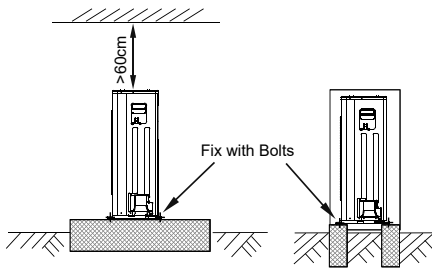

Fig.6-5
- Create a concrete foundation according to the specifications of the outdoor units. (Refer to Fig. 6-5)
- Firmly fasten the feet of this unit with bolts, to prevent it from collapsing in case of earthquake or strong winds. (Refer to Fig. 6-5)